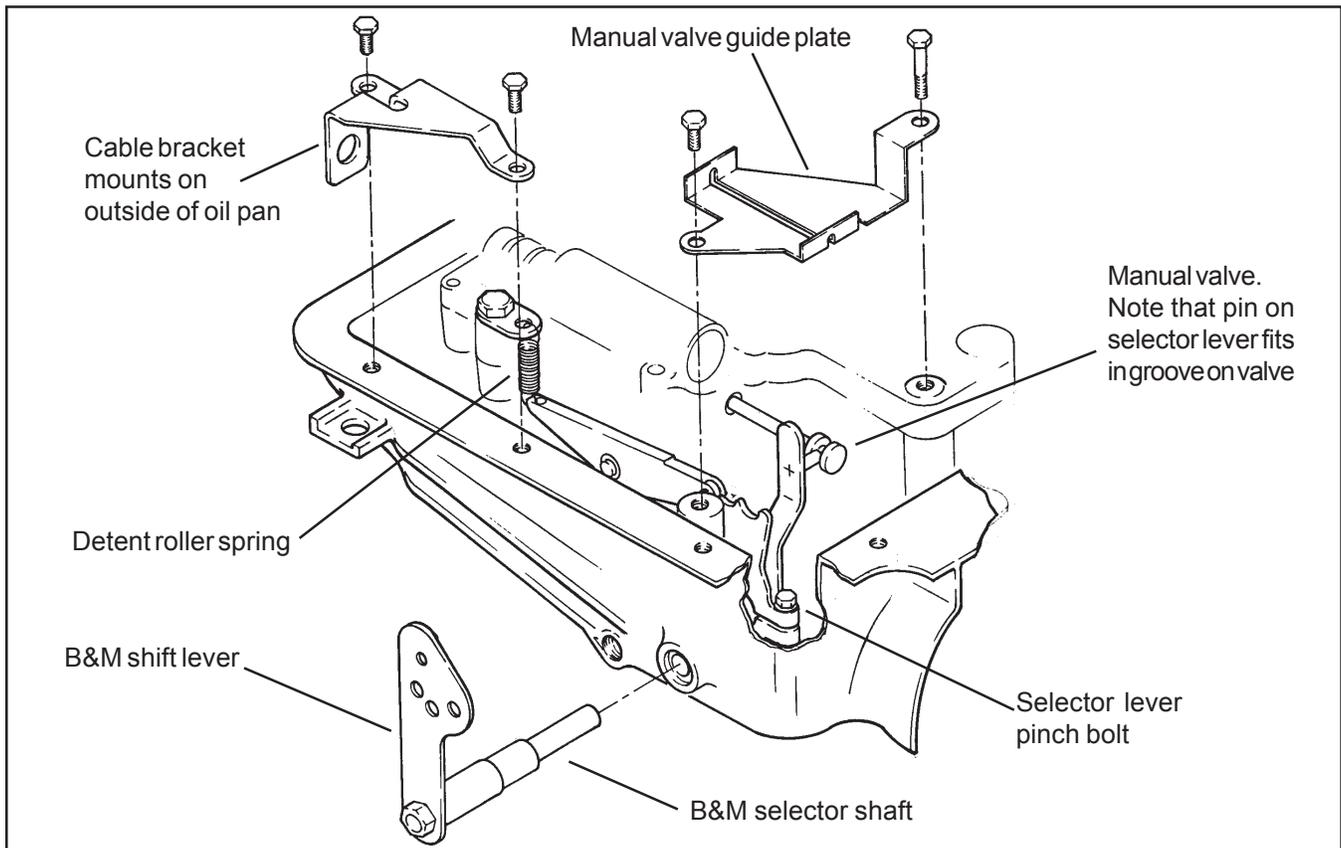

Figure 1
**STEP 3.** Remove the manual valve guide plate by removing two bolts (**See Figure 1**). Unhook and remove the detent roller spring. Allow the detent roller to pivot out of the way. Note how the pin on the manual valve selector engages the groove in the manual valve.
**STEP 9.** Install the cable bracket in position with the two remaining pan bolts (**See Figure 1**). Install the **B&M** lever onto the shaft with the lever pointing down. If your cable comes from the front (usually a rear engine car) the lever is installed pointing upwards. You will have to make your own cable bracket for this installation.